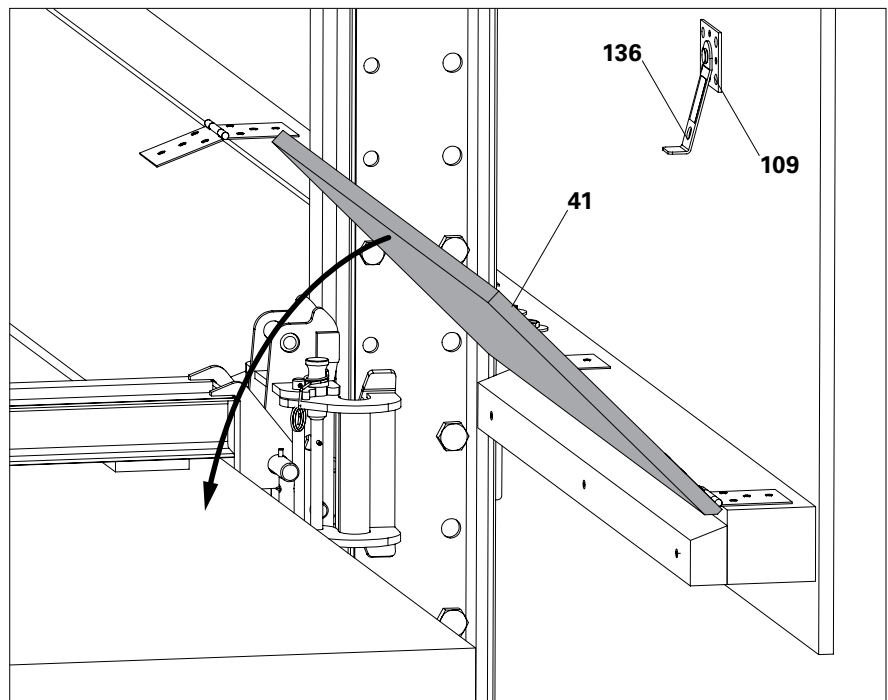

Fig. C4.06
2. If not yet installed: provide a Fixation Bar (136) for each cover for the opened position. Secure each Fixation Bar to the enclosure using 4 screws 5 x 20 (109).
- (Fig. C4.06)